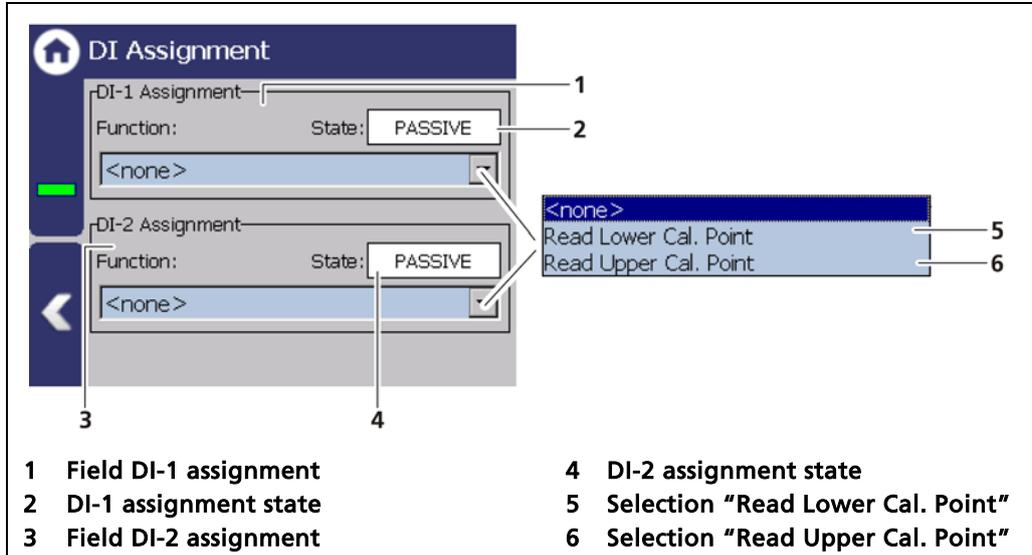

Fig. 89 DI Inputs Assignment
If the assignment state is "ACTIVE" (Fig. 89, item 2, item 4), the selected function is carried out. The active condition is created by closing the digital input.